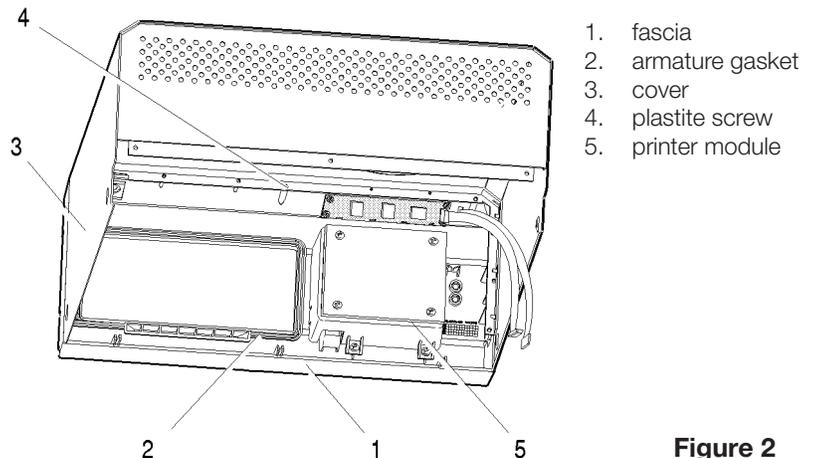

Figure 2
To replace the armature gasket proceed as follows (see Figure 2).
To remove the fascia (1), proceed as follows (see Figure 2):
1. The fascia is attached to the cover (3) using seven plastite screws (4). Remove and retain the screws.
3. If a printer module (5) is installed it must be removed from the fascia. See, 12. Printer - Removing and Replacing the Printer.
To replace the fascia (1), proceed as follows (see Figure 2):
1. If a printer module (5) was previously installed it must be reinstalled in the fascia. See, Removing and Replacing the Printer.
2. Apply a bead of silicon between the fascia and cover (3) to provide a water-tight seal.
3. Install the new fascia using the seven screws (4) retained from the disassembly procedure.